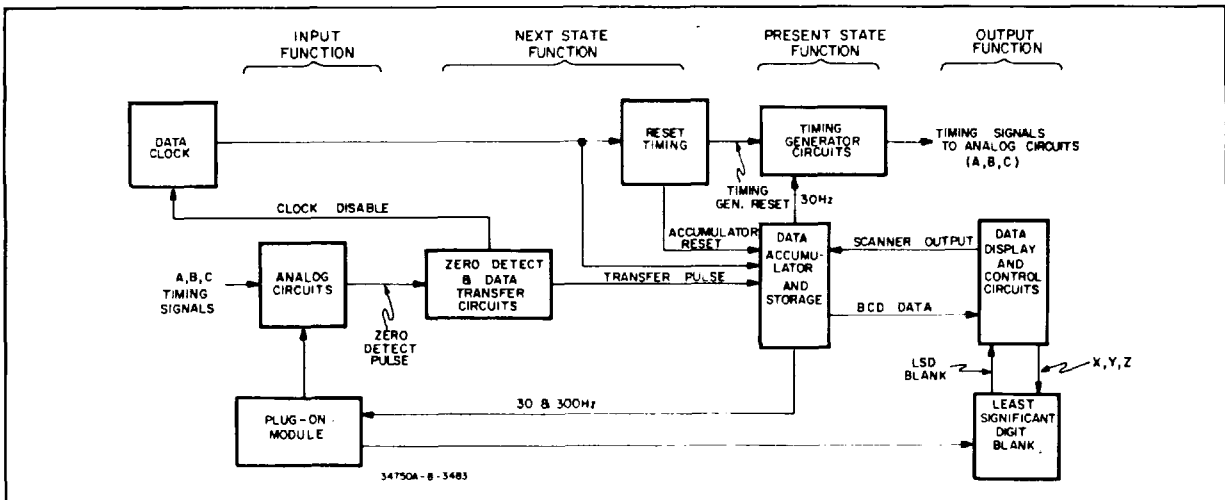

Figure 4-7. ASM Simplified Block Diagram
**4-16. The Algorithmic State Machine (ASM).** The State Machine in the Model 34750A is shown in Figure 4-7 in block form. The inputs to the State Machine come from the Analog Circuits and the plug-on modules. The output consists of the Data Display of the instrument and logic signals which are applied to the various plug-on modules.